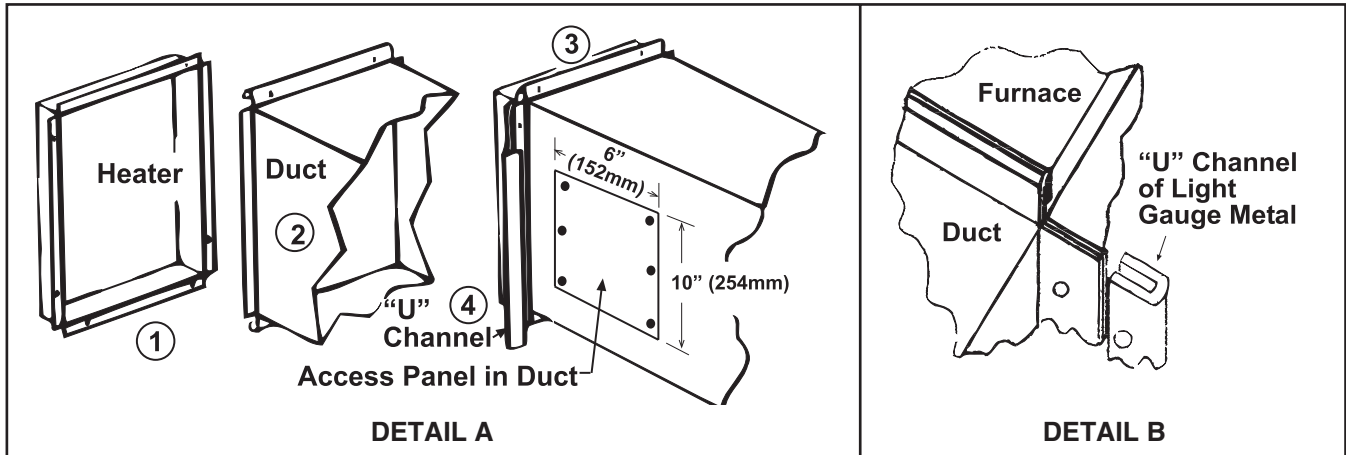

Figure 14. Connecting Ductwork to Furnace
See **Figure 14**, DETAIL A for numbers that refer to the following steps to connect the ductwork to the furnace:
2. Shape duct connection with U-channel on top and bottom and L-channel on sides as shown in **Figure 14**, DETAIL B.